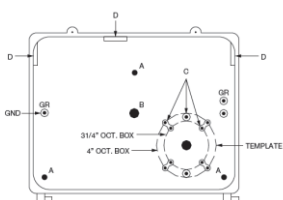

Figure 3
4. If using electrical conduit, remove the screw cap from the desired 1/2" NPS tapped hole and replace with conduit. (See Fig.3)